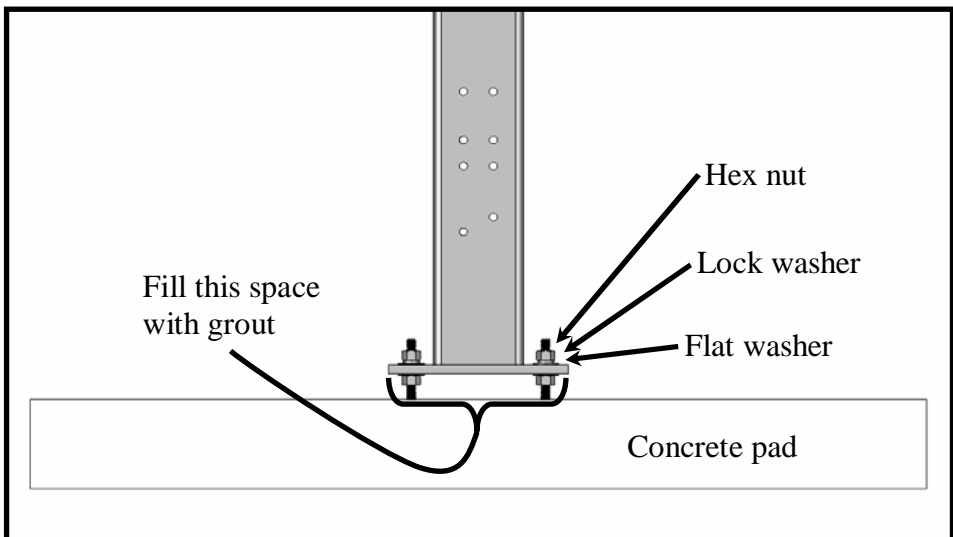

Figure B5
6) To finish, grout should be installed to fill the void underneath the vertical upright. See Figure B5.